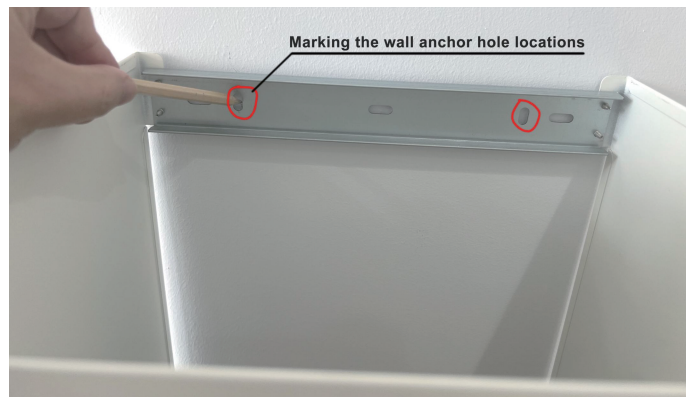

Figure 7
- Place the lower chimney cover on top of the range hood and mark the wall anchor hole locations. Figure 7